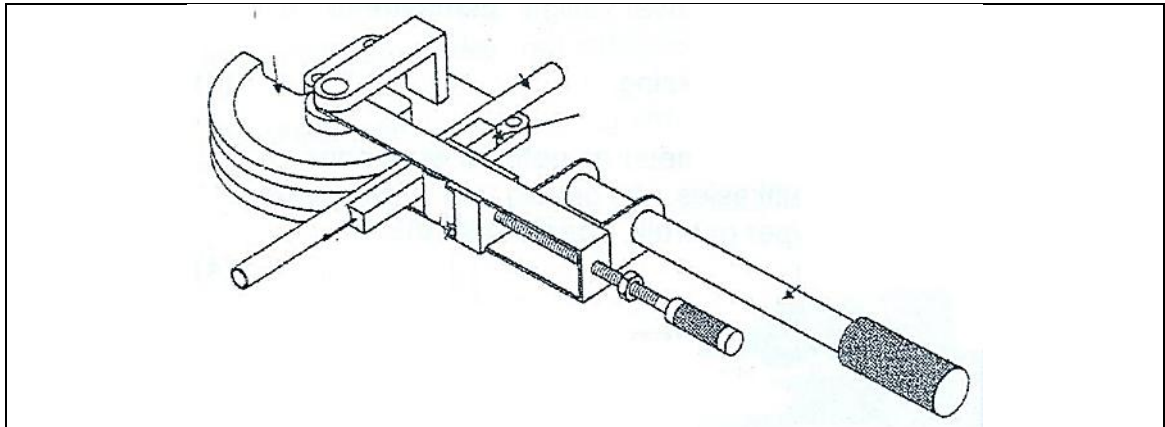

FIGURE 1.3
- D Set the drill at the correct speed (r/min) (1)
- 1.3 In which class lever will you classify the pipe bending apparatus as shown in FIGURE 1.3?